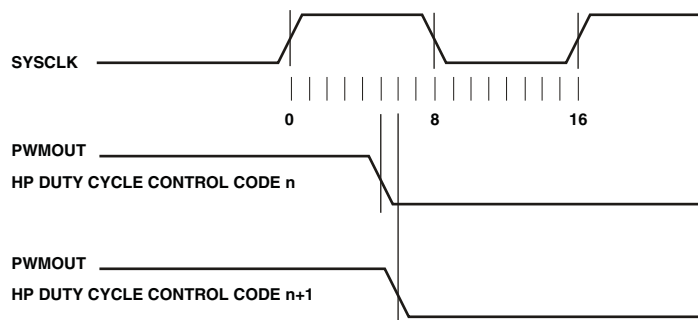
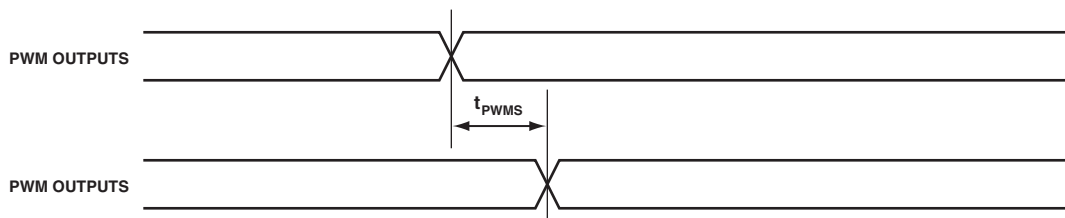

Figure 59. Fractional Duty Cycle Edge Placement (4-Bit Resolution)
Figure 62. PWM HP and MP Modes Timing, Output Skew
Table 88, Table 89, and Figure 59 through Figure 62 describe heightened precision (HP) PWM operations.
2See Figure 59 for an example of 4-bit resolution of fractional duty cycle edge placement.